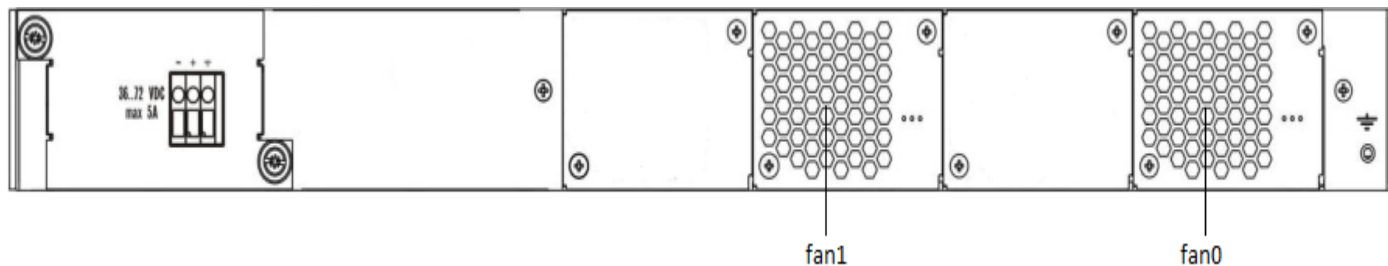
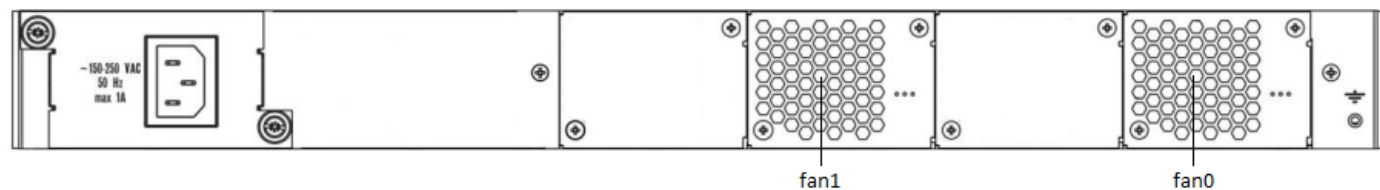
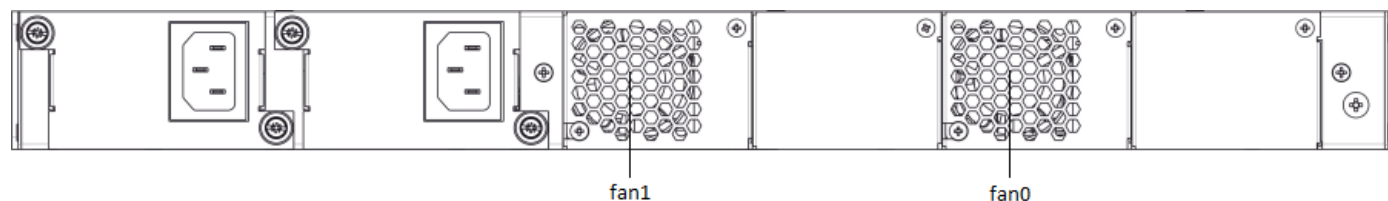

Figure 5 – LTP-4X/8X (DC) rear panel layout
Figure 6 – LTP-4X/8X (AC) rear panel layout
Figure 7 – Rear panel layout of LTP-4X/8X rev.C, LTP-4X/8X rev.D with two power modules
The rear panel layout of the device is depicted in Fig. 5, 6, 7.
There are ventilation openings on the device rear, front and side panels that serve to remove heat. The rear panel has two ventilation units installed (Figure 5, Figure 6 and Figure 7).
- **Step 2.** Ground the case of the device. This should be done prior to connecting the device to the power supply. An insulated multiconductor wire should be used for earthing. The device grounding process and the earthing wire section should comply with Electric Installation Code. The earth bonding point is located on the rear panel, see Figure 5, Figure 6 and Figure 7.